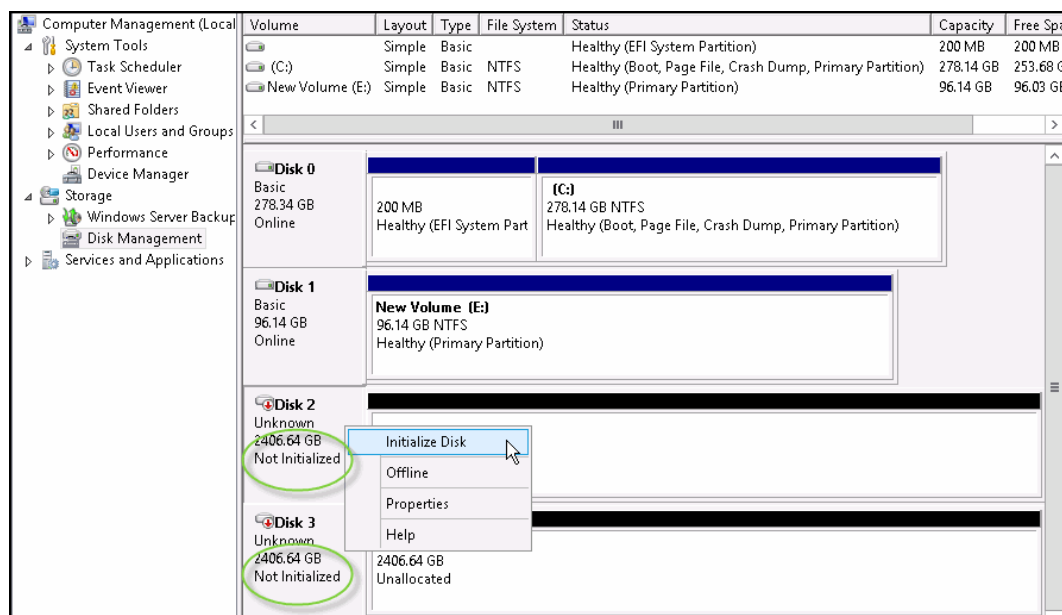

Figure 3-8 New volumes need to be Initialized before Logical Disk Manager can access them
6. After the volume (or volumes) are set to **Online**, they will show as **Not Initialized**. Right-click on the volume name and select **Initialize Disk** to prepare it for use with Logical Disk Manager (see Figure 3-8).